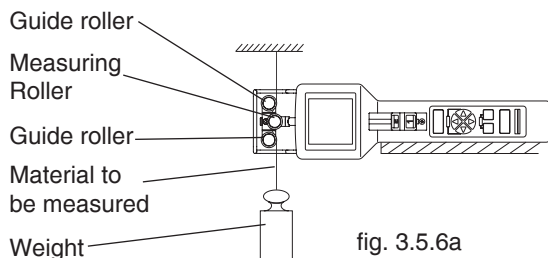

fig. 3.5.6a
- Prepare the measuring setup as shown in Fig. 3.5.6a.